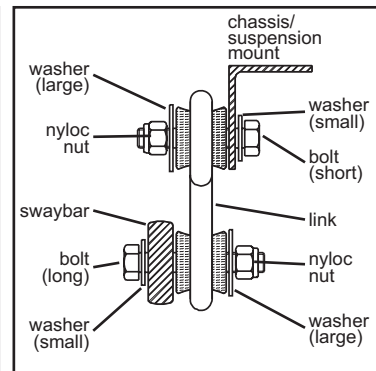

Figure 2.
5. Using remaining hardware, connect the swaybar to the endlinks, as shown in photo 5 and figure 2.